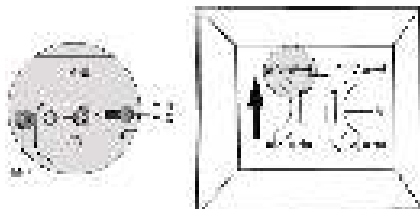

Figure 6
2. Remove any **Screws** or **Place Holders** from the **VESA Mounting Holes** on the back of the **Monitor**. (Figure 6)
4. Align the **Screw Holes**, located on the **VESA Mount (A)**, with the **Spacers (M-F) / VESA Mounting Holes**, located on the back of the **Monitor**. The **VESA Mount** can support a 75 x 75 or 100 x 100 mounting pattern.
***Note** When attached, the **VESA Attachment Tab**, located on the **VESA Mount (A)**, should be positioned toward the top of the **VESA Mount (A)**.*
7. Insert the four **Screw Assemblies** through the **Screw Holes** on the **VESA Mount (A)**, the **Spacers (M-F)**, and into the **VESA Mounting Holes**, located on the back of the **Monitor**, and tighten, using a **Phillips Head Screwdriver**, to complete the **Monitor Mount Assembly**.